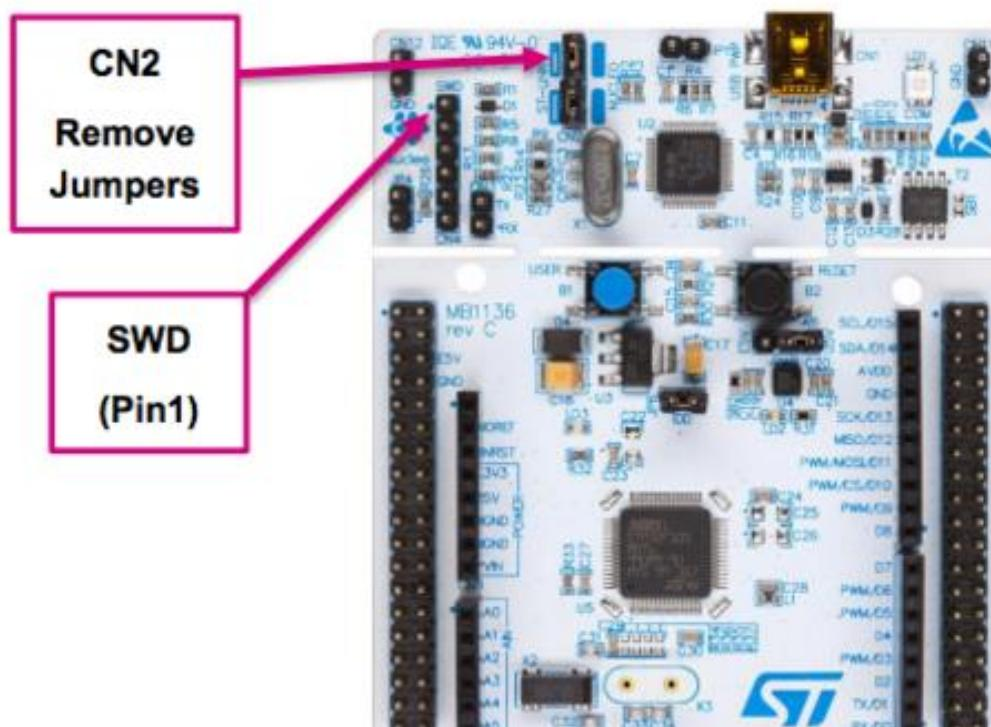

Figure 5: Removing the CN2 Jumpers from the Nucleo-L47RG board.
2. Remove the CN2 Jumpers. (Remove both of them). See Figure 5.